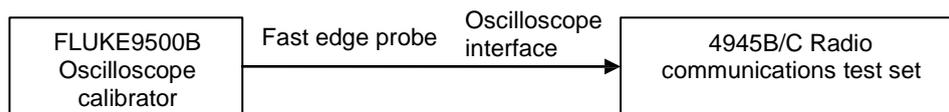

Fig. 6-16 Oscilloscope input characteristics test
- 1) As shown in Fig. 6-16, connect the oscilloscope calibrator with the oscilloscope input 1 interface of 4945B/C with a fast edge probe; set 4945B/C to the oscilloscope mode and the oscilloscope channel 1 to on;
- 3) As shown in Fig. 6-16, connect the oscilloscope calibrator with the oscilloscope input 2 interface of 4945B/C with a fast edge probe; set 4945B/C to the oscilloscope mode and the oscilloscope channel 2 to on; repeat step 2);